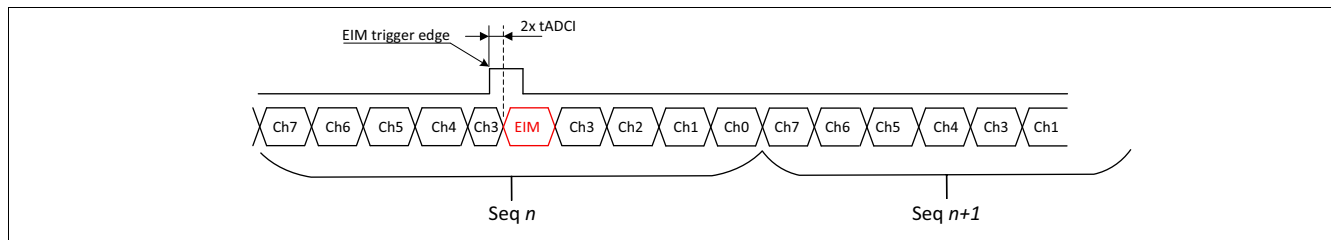

Figure 207 ADC1 EIM measurement within sequence example
- “Exceptional Interrupt Measurement” (EIM), upon hardware event, the channel programmed in CHx_EIM is inserted immediately. The current measurement is aborted, then the EIM measurement is inserted, it will start two tADC1 cycles after the trigger edge. After the EIM is done the aborted measurement is repeated and the sequence continues, see Figure 207. An EIM can even interrupt an ESM. The EIM trigger is level sensitive, as long as the EIM trigger input is high level the ADC1 performs EIM measurement(s). The number of EIMs performed depends on the setting of the CHx_EIM.REP flag.